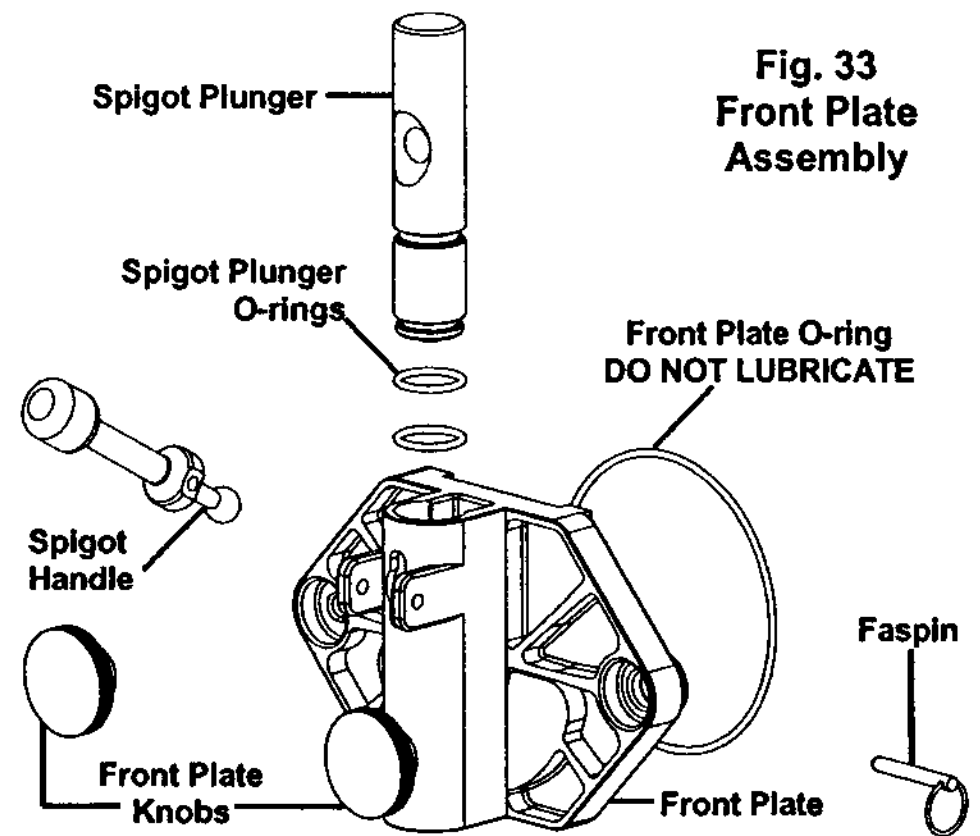

Fig. 33
- b. Slide the lubricated spigot plunger into the front plate (Fig. 33) making certain that the spigot handle slot is aligned to the front.